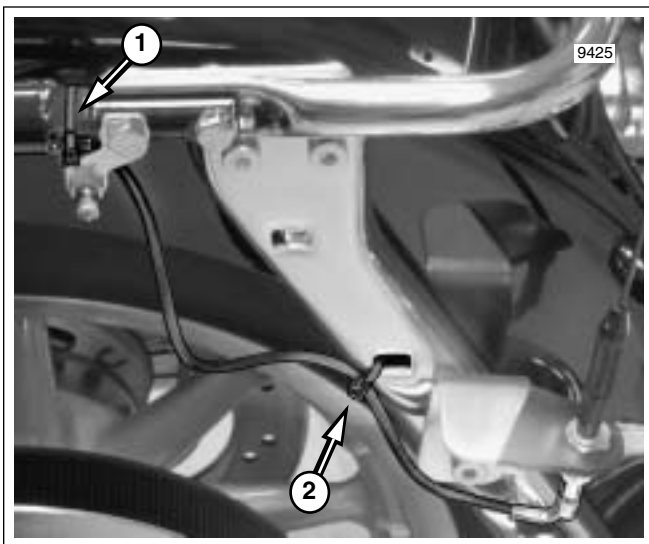

Figure 8-166. Capture Radio Antenna Cable (FLTR)
- a. Feed radio antenna cable and connector rearward following inboard side of upper frame tube. With the 3-place Multilock connector (unused) positioned about as far rearward as the rear shock air valve, install **new** cable strap to secure radio antenna cable to shoulder of upper frame tube (just in front of air valve mounting bracket). Using slotted hole, install **new** cable strap to secure radio antenna cable to rear fender support. See Figure 8-166.